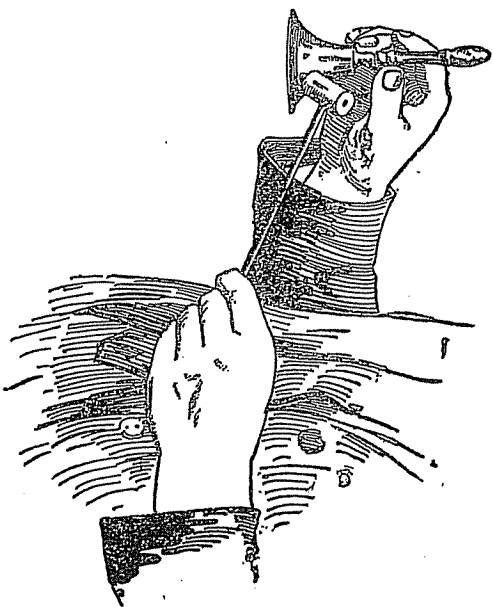

FIG. 12
**Experiment No. 8.** Strike a bell with a cork hammer. (See Figure 12.) See if you can observe the vibration or motion of